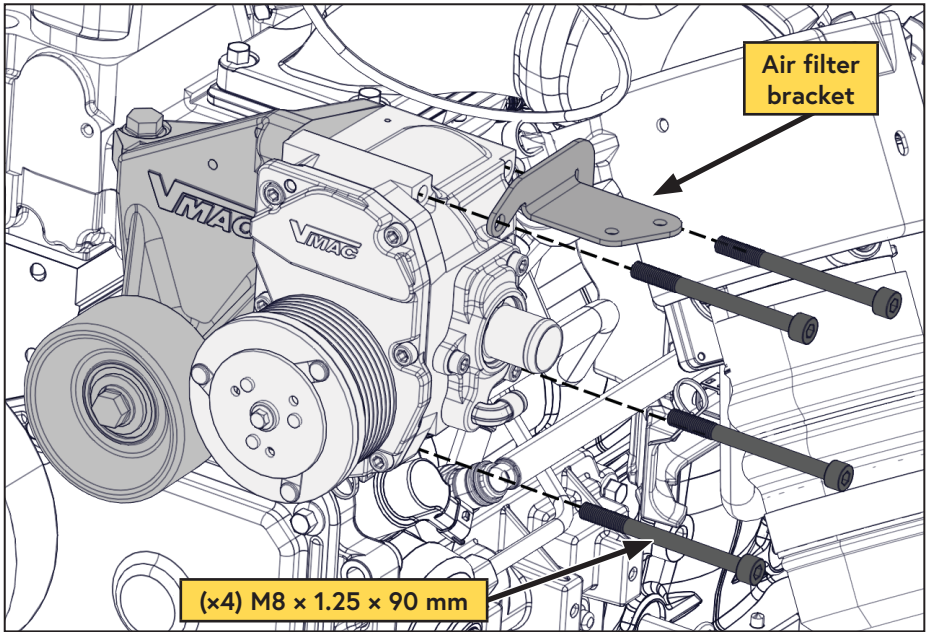

Figure 16 — Mounting the compressor
- Using the (x4) M8 × 1.25 × 90 mm fasteners (do not apply Loctite), temporarily mount the compressor and air filter bracket to the VMAC main bracket (Figure 16).